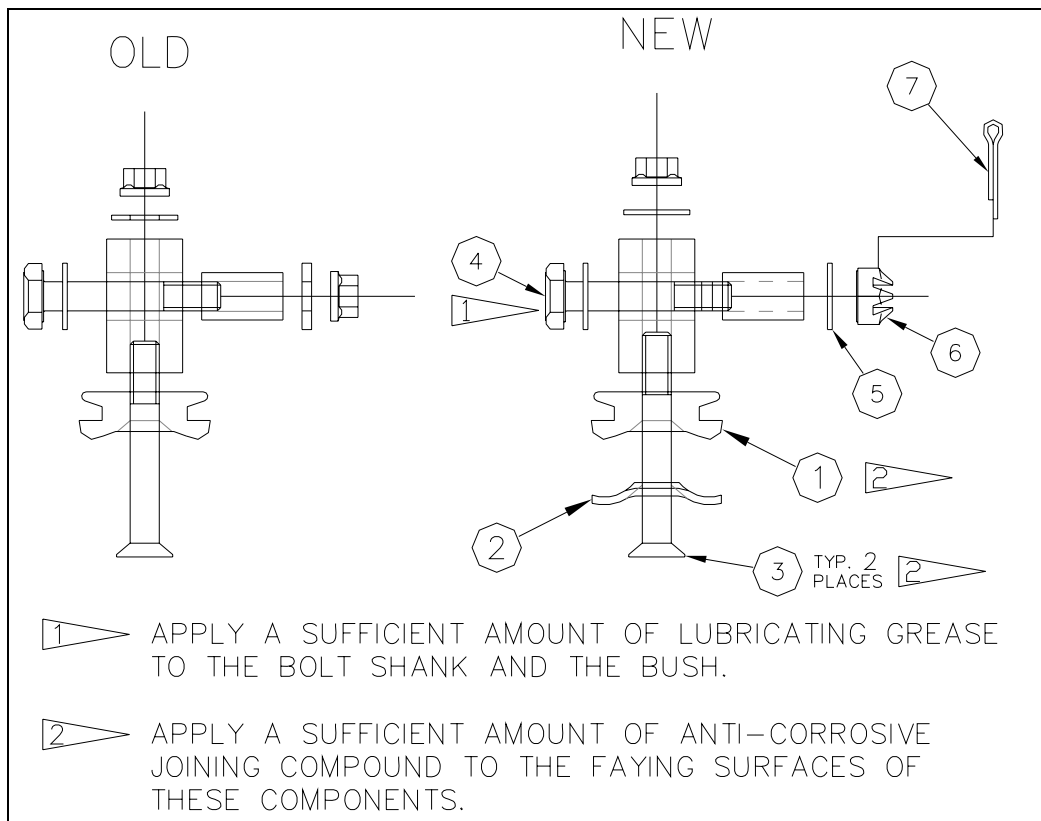

Figure 4: Old (left) and New (right) Forward cargo door slide.
5. Irrespective of Item 1, Items 2 to 7 **MUST** be fitted as shown in Figure 4 and listed in Table 2 below.